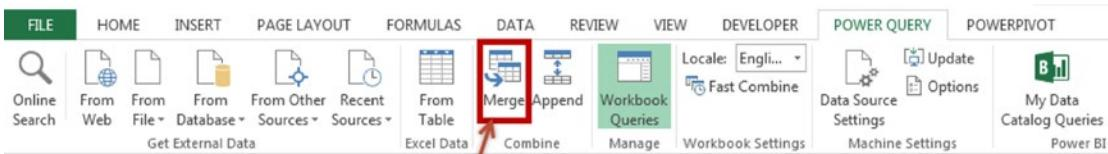

Figure 23-17. Merging two queries using the Merge button on the Power Query tab in Excel
1. Go to the Power Query ribbon in Excel and click Merge in the Combine group (see Figure 23-17). This will open the Merge window, as shown in Figure 23-18.